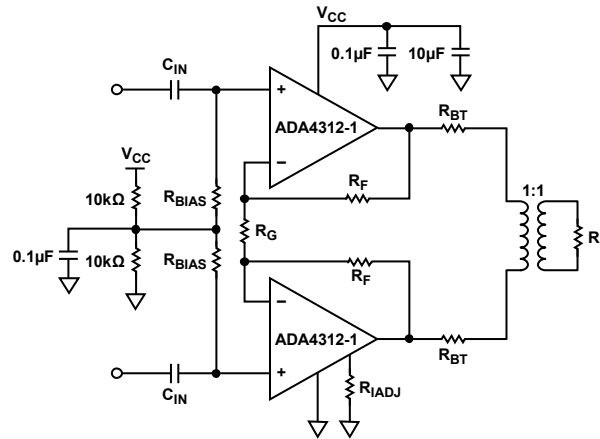
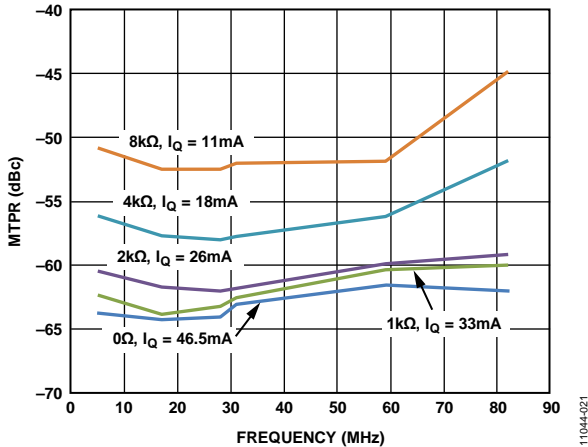

Figure 17. Typical G.hn Application Circuit
Figure 18. MTPR vs.  $R_{IADJ}$
The feedback resistor value has a direct impact on the closed-loop bandwidth of the current feedback amplifiers used in the architecture of the ADA4312-1 differential line driver. Table 5 provides a guideline for the selection of feedback resistor values used in typical differential line driver circuits (refer to Figure 17).
The patented input stage of the core amplifiers is not conducive to operating either core amplifier independently. The ADA4312-1 input stage is designed to operate only in differential applications similar to the circuit shown in Figure 17.
In systems such as G.hn PLC modems, half-duplex or time-division duplex (TDD) systems require the line driver to be switched between transmit mode and high output impedance receive mode. The ADA4312-1 is equipped with a shutdown pin (SD, Pin 9) that stops the line driver from transmitting while switching the outputs to a high output impedance equivalent to 10 k $\Omega$  in parallel with  $2R_F + R_G$  (see Figure 17). The shutdown (SD) pin is compatible with standard 3.3 V CMOS logic. If the SD pin is left floating, an internal pull-up resistor places the output in a disabled, high output impedance state. SD logic is referred to GND (Pin 4), which should be connected to 0 V.
In single-supply applications such as the one shown in Figure 17, it is necessary to establish a midsupply operating point ( $V_{MID}$ ). To establish  $V_{MID}$ , use two 10 k $\Omega$  resistors to form a resistor divider from  $V_{CC}$  to ground and a 0.1  $\mu$ F ceramic chip capacitor for decoupling. Place the  $V_{MID}$  decoupling capacitor and the  $R_{BIAS}$  resistors as close as possible to the ADA4312-1.
Note that there is a trade-off between the adjusted quiescent current and the linearity (or MTPR) of the transmitted signal. Multitone power ratio (MTPR) was monitored at 5 MHz, 17 MHz, 28 MHz, 31 MHz, 59 MHz, and 82 MHz. Figure 18 can be used to gauge the approximate degradation of MTPR vs.  $R_{IADJ}$  and quiescent current while transmitting the G.hn signal across a 40  $\Omega$  differential load in the circuit shown in Figure 17.